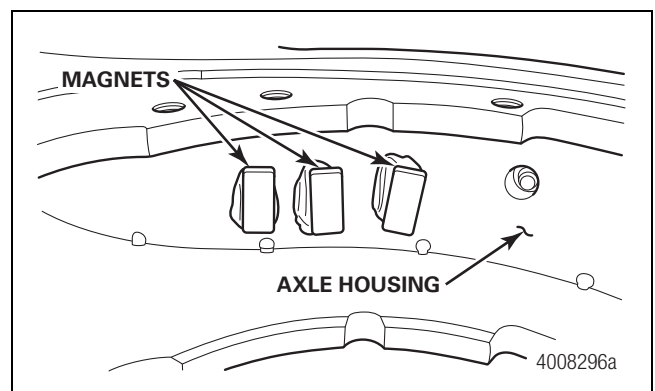

Figure 7.1
5. Check the magnets inside of the axle housing to ensure they are clean and securely fastened. Use Loctite® 5699 gasket material to secure the magnets if necessary. Figure 7.1.